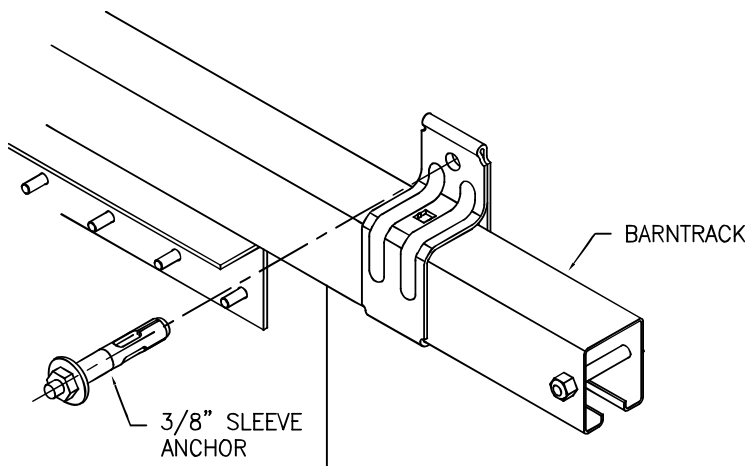

FIG. 9
- b. Drill through mounting holes in track bracket, use $\text{\O} 3/8$ " masonry drill bit (Fig. 9).
- c. Insert $3/8$ " sleeve anchors and tighten with $1/2$ " socket wrench (Fig. 9).